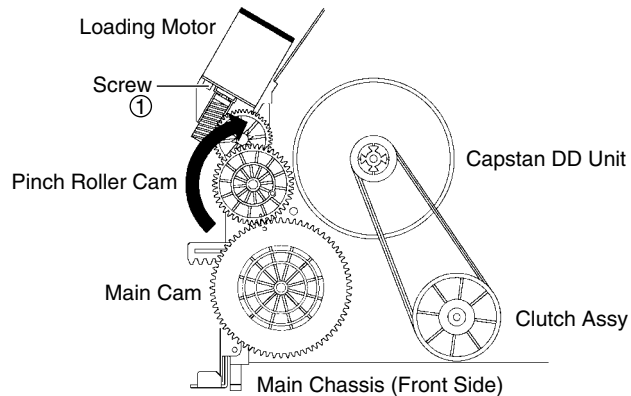

Fig. 2
1. Remove the Top Cabinet, Front Cabinet and DVD Block. **(Refer to item 1 of the DISASSEMBLY INSTRUCTIONS.)**
2. Remove one screw ① of the Deck Chassis and remove the Loading Motor. **(Refer to Fig. 2)**